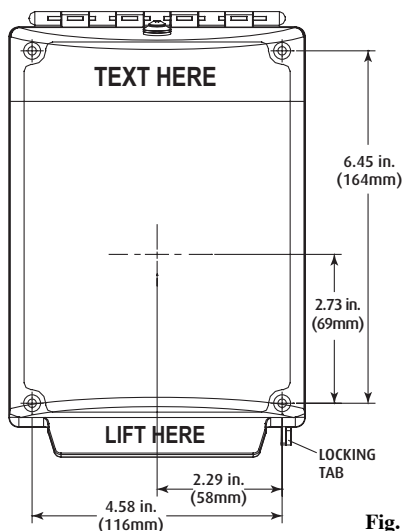

Fig. 1
1. Center the pull station to the Universal Stopper with the help of the dimensions in Fig. 1. Open cover and use the mounting frame or optional backplate to mark the mounting hole locations as in Fig. 1. **Be sure the entire cover travel will not interfere with operation of the pull station or other safety system equipment when installed.**